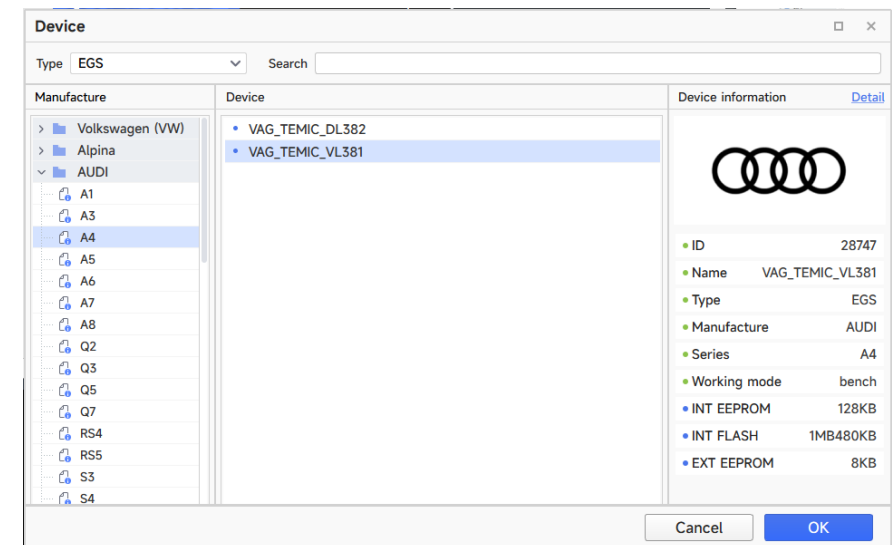

Figure 9.2.1
1. Select the module type 'Transmission/Audi/VL381' as shown in Figure 9.2.1.